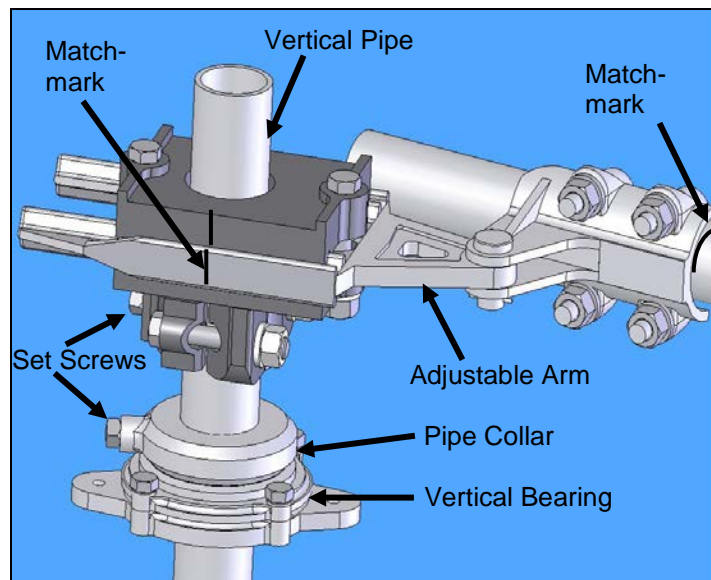

Figure 4: Typical Operating Arrangement
- 3.1.4. **Important:** The pipe collar must support the entire weight of the vertical pipe. Do not allow the housing of the manual or motor operator to bear any of the weight of the vertical pipe. See **Figure 4**. Once adjusted properly pierce the pipe collar.